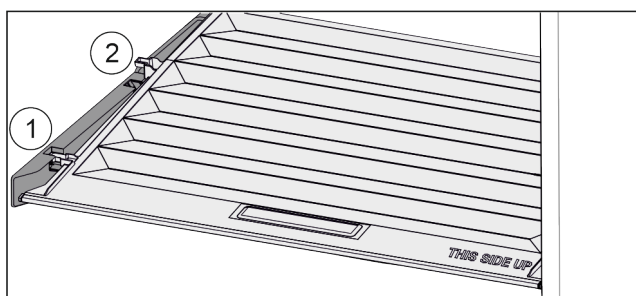

Fig. 43
- ▶ Pull the lid up at the front to the opening in the retaining parts Fig. 43 (1).
- ▶ Lift from the back and pull it up and out Fig. 43 (2).